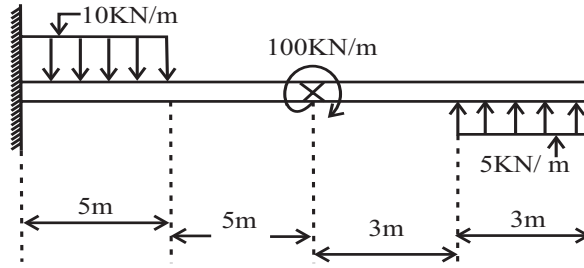

Fig 8.42
Let reaction at hinged i.e., point A is R_{AH} and R_{AV} , Let $\sum H$ & $\sum V$ is the sum of horizontal and vertical component of the forces, The supported beam is in equilibrium, hence Draw the FBD of the beam as shown in fig 8.42, Since beam is in equilibrium, i.e.,
Q. 18: Find out reactions at the gouted end of the cantilever beam shown in fig 8.42.